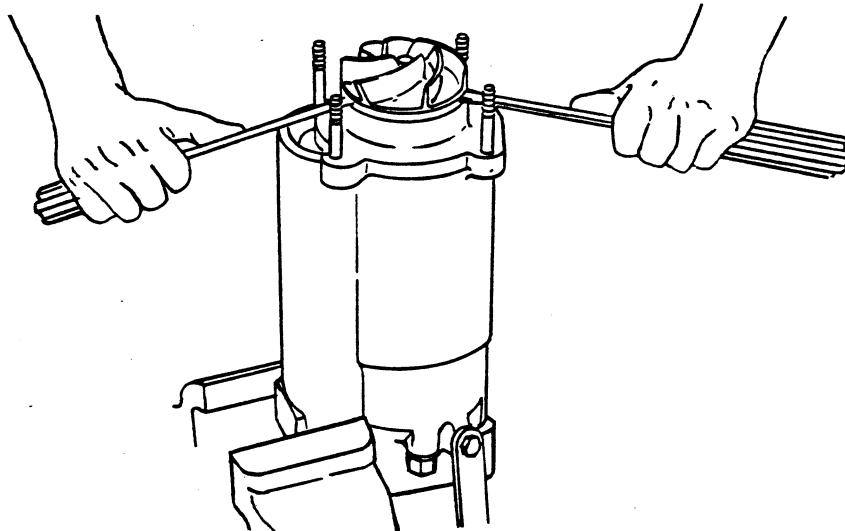

Figure 3. Removing Pump Impeller
Wedge a piece of wood between one of the vanes of impeller (2) and a stud (17) to prevent shaft rotation. Unscrew the impeller nut (2) and remove the flat washer (22). Pry off the impeller using two screwdrivers as shown in Figure 3 and remove the key (20).